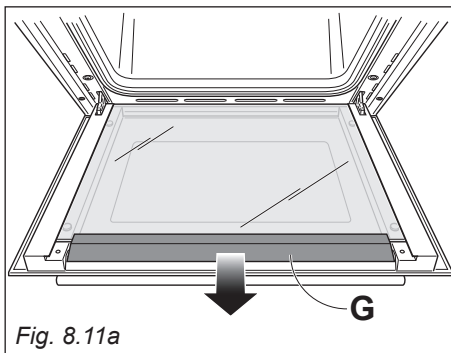

Fig. 8.11a
- Gently remove the air deflector "G" at the top of the oven door (fig. 8.11a).